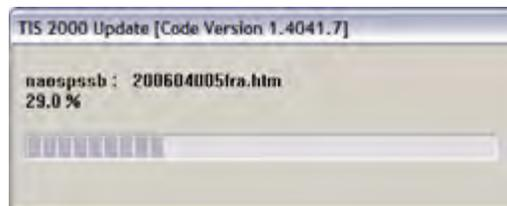
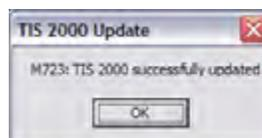

Figure 1.21: Update Progress Indicator
Figure 1.22: Update Completion Message
- 2 Click the **OK** button to continue. This begins the update and displays a progress indicator message (Figure 1.21). When the update completes, a completion message appears (Figure 1.22).